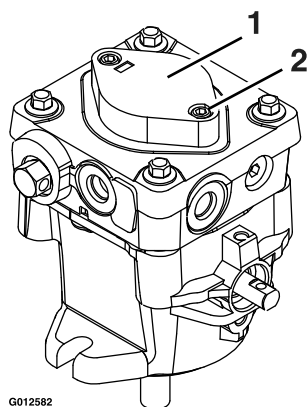

Figure 21
7. If either drive wheel does not rotate, one or both of the charge pumps (located on the top of the main pump as shown in Figure 21) may have lost their “prime”. Refer to **Hydraulic System Air Purge** section.
The critical area for purging air from the hydraulic system is between the oil reservoir and each charge pump located on the top of each variable displacement pump (Figure 21). Air in other parts of the hydraulic system will be purged through normal operation once the charge pump is “primed”.
5. To “prime” charge pump, loosen two hex socket head capscrews (shown in Figure 21) **1 1/2 turns only. Make sure engine is not running.** Lift the charge pump housing upward and wait for a steady flow of oil to flow out from under the housing. Retighten the capscrews. Do this for both pumps.